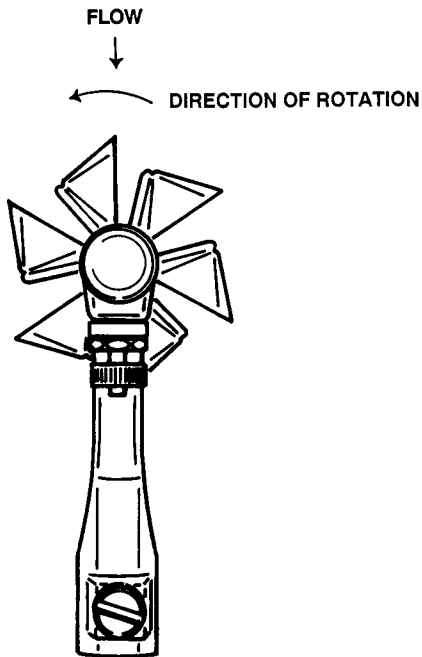

Figure 3. Positioning Meter
Do not turn the "Bucket Wheel" in the wrong direction as this can damage the contact wires and cause inaccurate readings. The correct direction of rotation is counterclockwise as viewed from above. See Figure 3.
2. Ensure that the Meter is positioned to the "Bucket Wheel" is facing into the current or into the direction of water flow. See Figure 3.